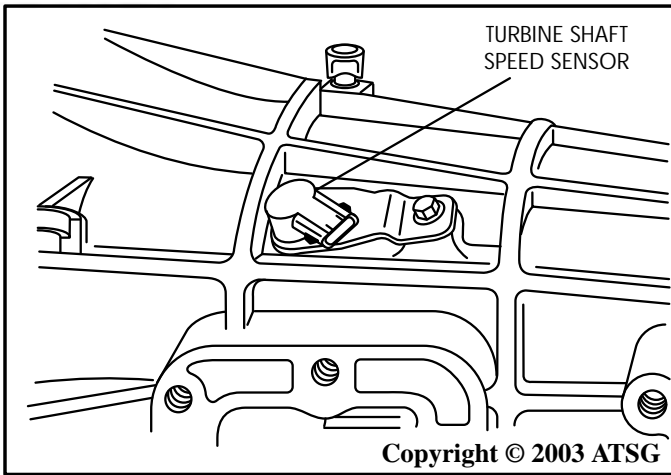

Figure 200
4. Install turbine shaft speed sensor, if equipped, as shown in Figure 200, and torque the bolt to, 8-10 N·m (71-88 in.lb.).